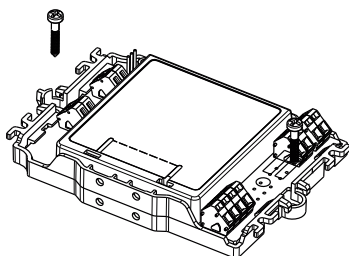

Fig. 4.6.1
- Installation directly in a switching cabinet or a control unit: mount the module on an even surface (Fig. 4.6.1) .
2. Fix it with two M4 screws (Fig. 4.6.1). Distance between installation holes: 118.0±1.0mm